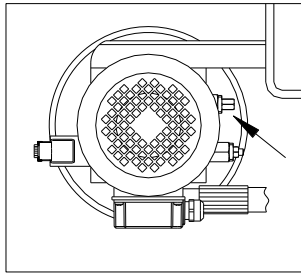

Fig.15
During lift and descent movements, the operator must remain in the command station as defined in Figure 15. The presence of persons inside the danger zone indicated in the same Figure is strictly prohibited. The presence of persons beneath the vehicle during operations is permitted only when the vehicle is parked in the elevated position.
2. The maximum pressure valve (Fig.15), located on the hydraulic oil power unit, will trip if the lift is overloaded.